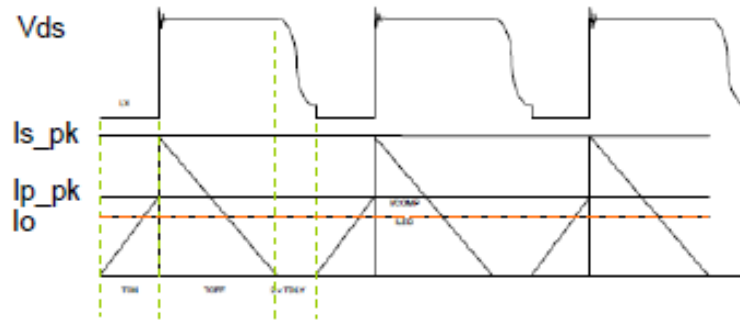

Figure 2. Current and V_{ds} Voltage Waveform
The primary current, secondary current and V_{ds} voltage are shown in Figure 2, according to this, the average output current I_o can be calculated as following equation (1).